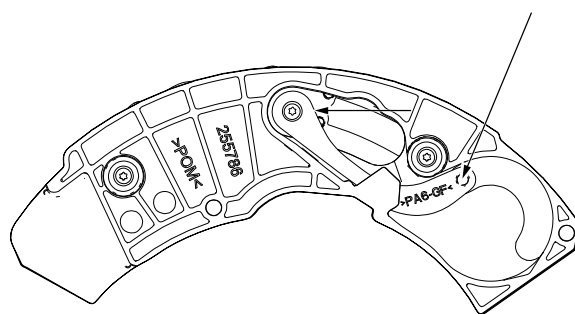

Figure 6.24
4. Make sure that the new singulator is in the same end position. Check that the stay is in the position as shown in figure "Figure 6.24".